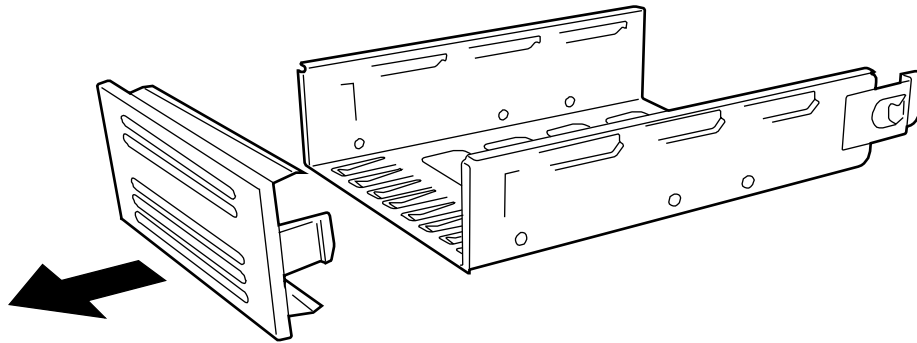

Figure 4-43. Removing the Device Bay Front Panel
- 14.** Remove the front panel. See Figure 4-43.